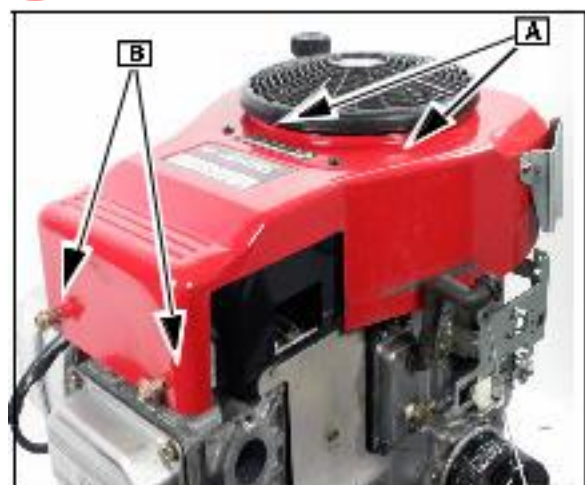

Fig. 7
1. Set multimeter to 300mv. See Figure 7.
Remove the remaining screws ([B] Fig. 7) around the perimeter of the outer blower housing.